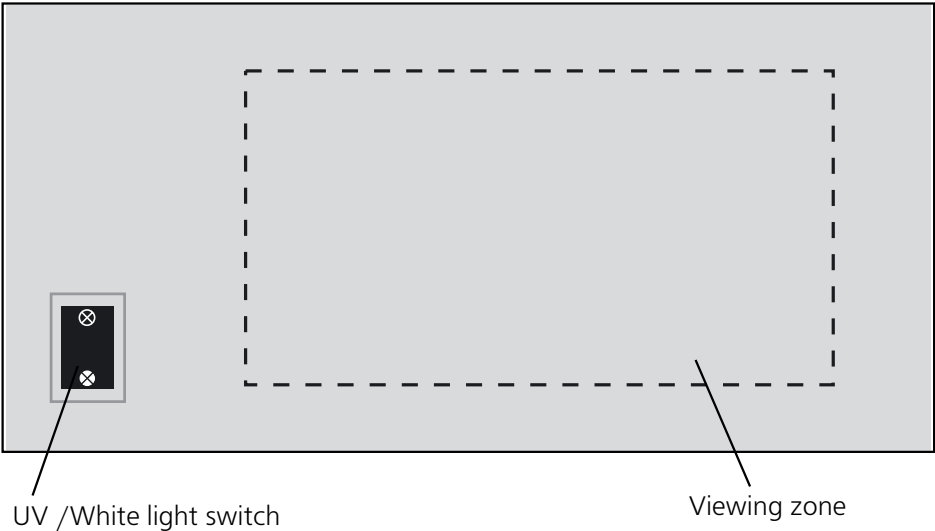

Fig. 2
2. Place one or several bank notes at the front device panel within the viewing zone (Fig. 2).